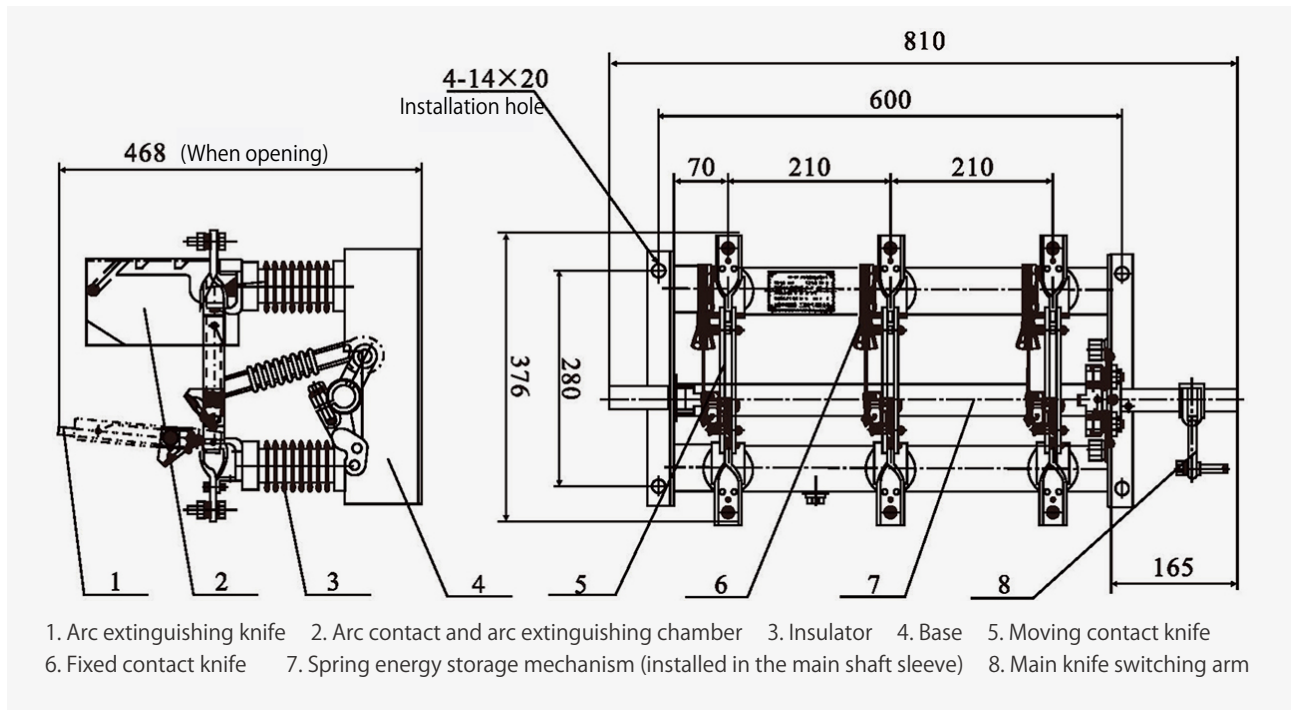
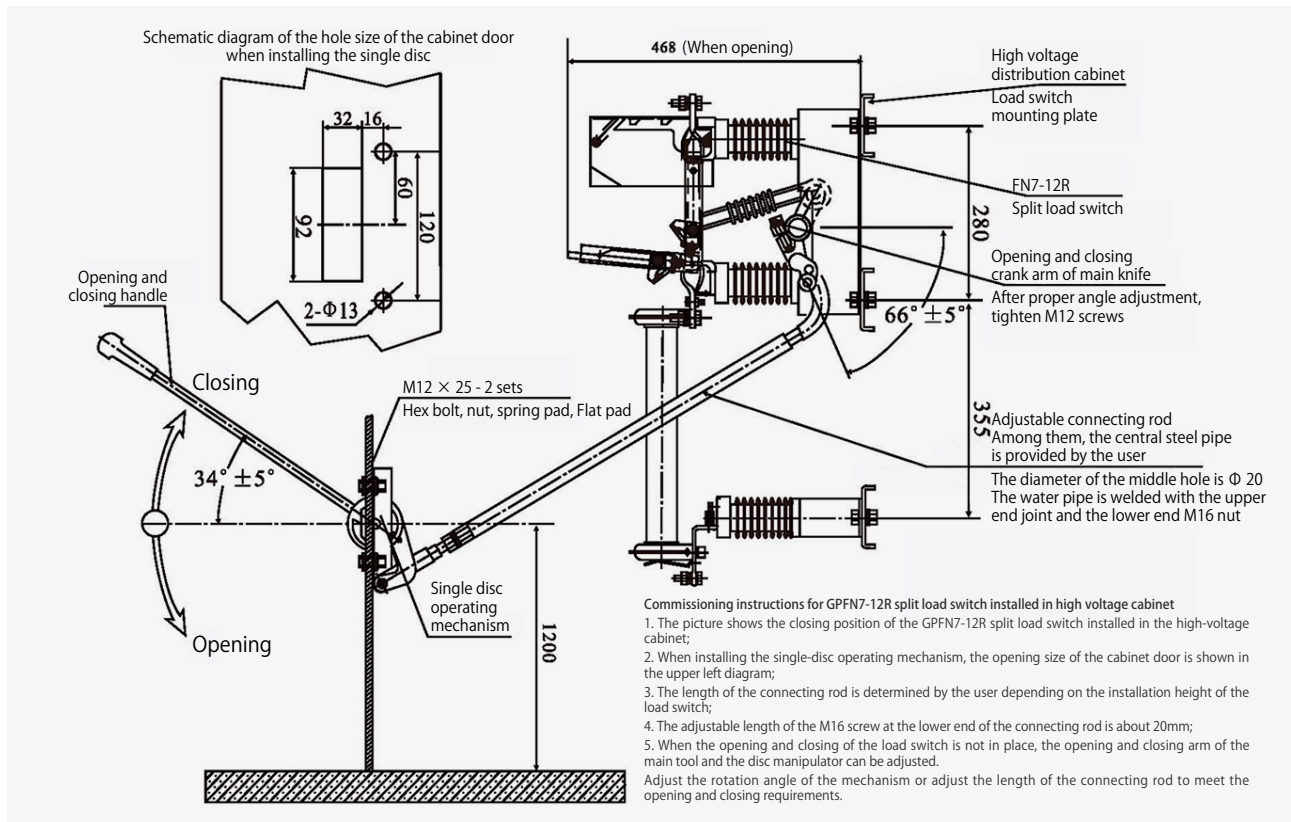

Figure 1 GPFN7-12 Load switch outline and installation dimensions
Figure 9 Schematic diagram of GPFN7-12 load switch and GPFN7-12R split type load switch installed in the cabinet
- The external dimensions are shown in Figures 1~8, and the installation method of the CS6-1 disc operating mechanism can be seen in Figures 9~12;